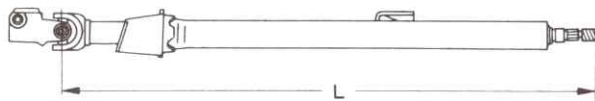

Fig. 10.22 Steering column length (Sec 19)
- 8 Check the column length L (Fig. 10.22). If it does not conform, renew the assembly.